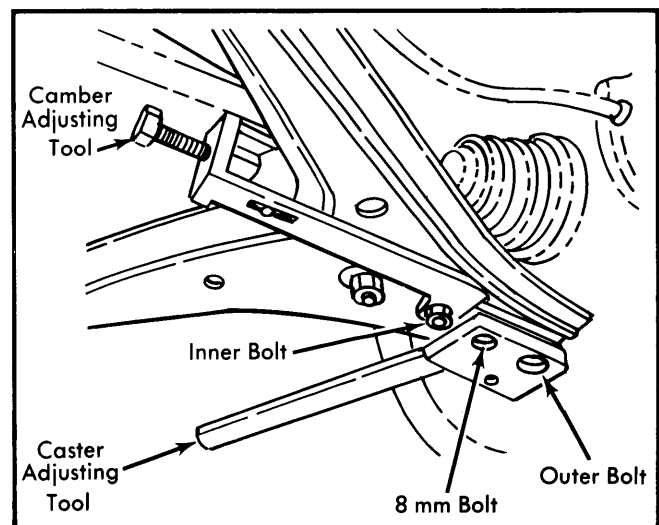

Fig. 1 Adjusting Caster and Camber on Audi 100LS with Special Tool. Fox Camber Adjusting Tool is Similar
Model 100LS — 1) With vehicle equipped with spare tire and full fuel tank, measure caster and camber angle. If not to specifications, remove inner ball joint-to-lower control arm mounting bolt and install camber adjusting tool (US 9020) as shown in Fig. 1. Install and slightly tighten an 8 mm bolt and washer in threaded hole between inner and outer ball joint mounting bolts on lower control arm, then loosen outer mounting bolt. Tighten tensioner bolt on adjusting tool to break loose ball joint, then tighten or loosen tensioner bolt until camber angle is set to specifications.
2) To adjust caster angle, leave camber adjusting tool installed to maintain adjusted camber angle, then install caster adjusting tool as shown in Fig. 1. Adjust caster angle to specifications by moving ball joint forward or backward by means of adjusting tool. Hold adjusting tool stationary and tighten outer ball joint mounting bolt to 80 ft. lbs. (11 mkg). Remove caster and camber adjusting tools and tighten inner bolt to 47 ft. lbs. (6.5 mkg), then remove 8 mm bolt and washer.